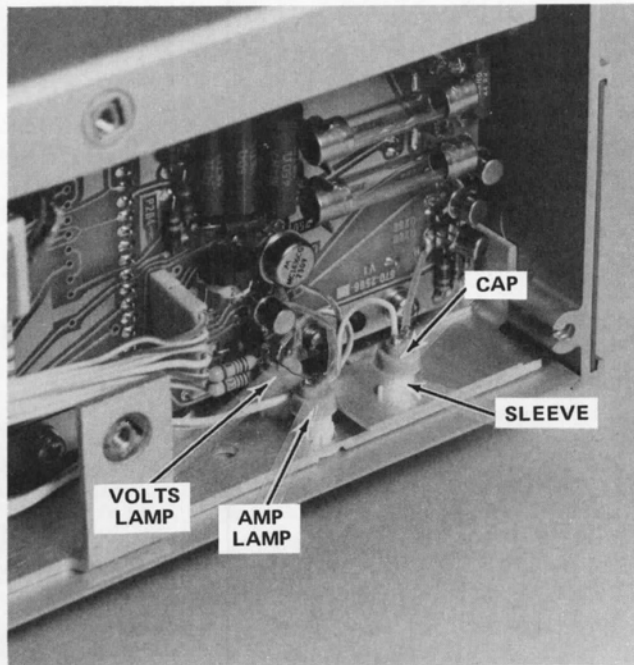

Fig. 4-6. Location and assembly details of indicator lamps.
- b. Lift the three-lamp holder caps away from the plastic sleeves (see Fig. 4-6).